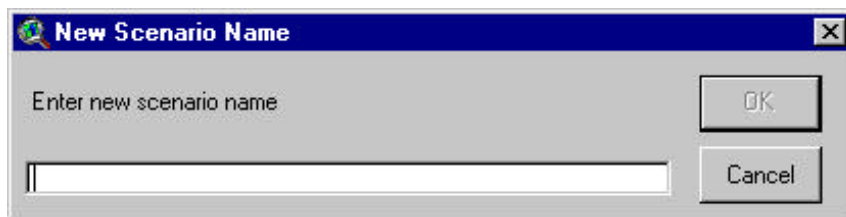

Figure 12.65
- b. A prompt box will appear (Figure 12.65).